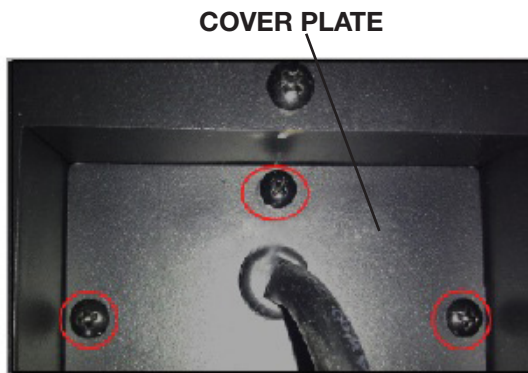

Fig. 1
- Remove the cover plate from the right side bottom of the appliance by removing the 3 screws (**Fig. 1**).
- Reinstall the cover plate using 3 screws (**Fig. 1**).